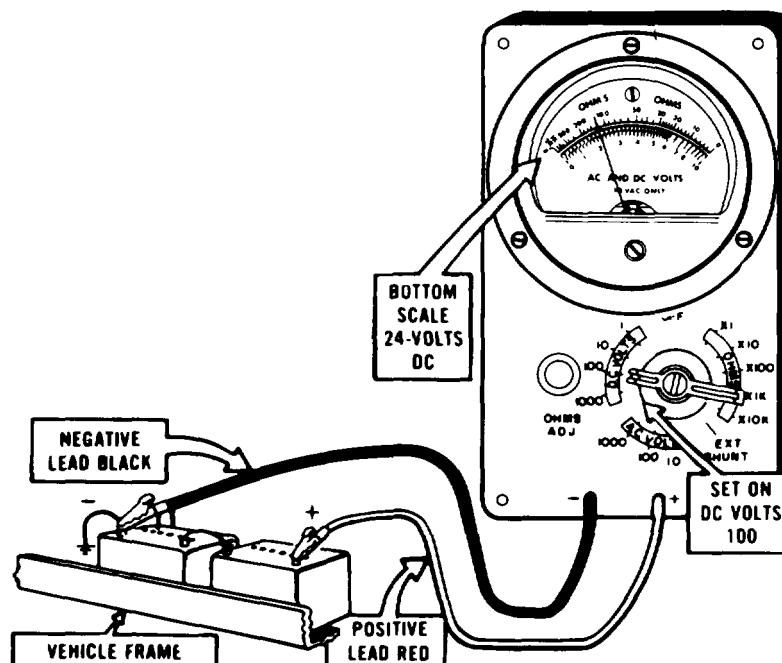

Figure 5-13. Measuring DC Voltage
g. Measuring DC Voltage. To measure dc volts (fig. 5-13), do the following steps:
- (1) Set up multimeter (see para f).